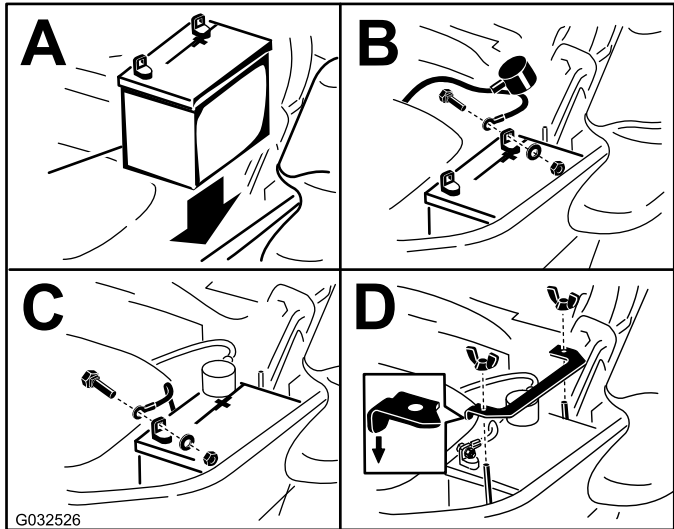

Figure 56
**Note:** Position the battery in the tray with the terminal posts opposite from the hydraulic tank (Figure 56).